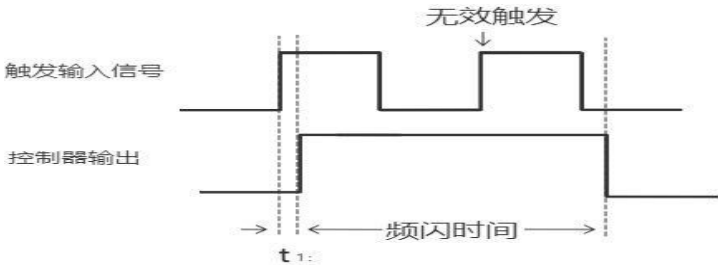

图 9 频闪模式时序图
**Strobe Mode:** When the controller is set to millisecond-level strobe, the light turns on when the trigger input signal is valid. The timing relationship (taking high level validity as an example) is shown in Figure 9: